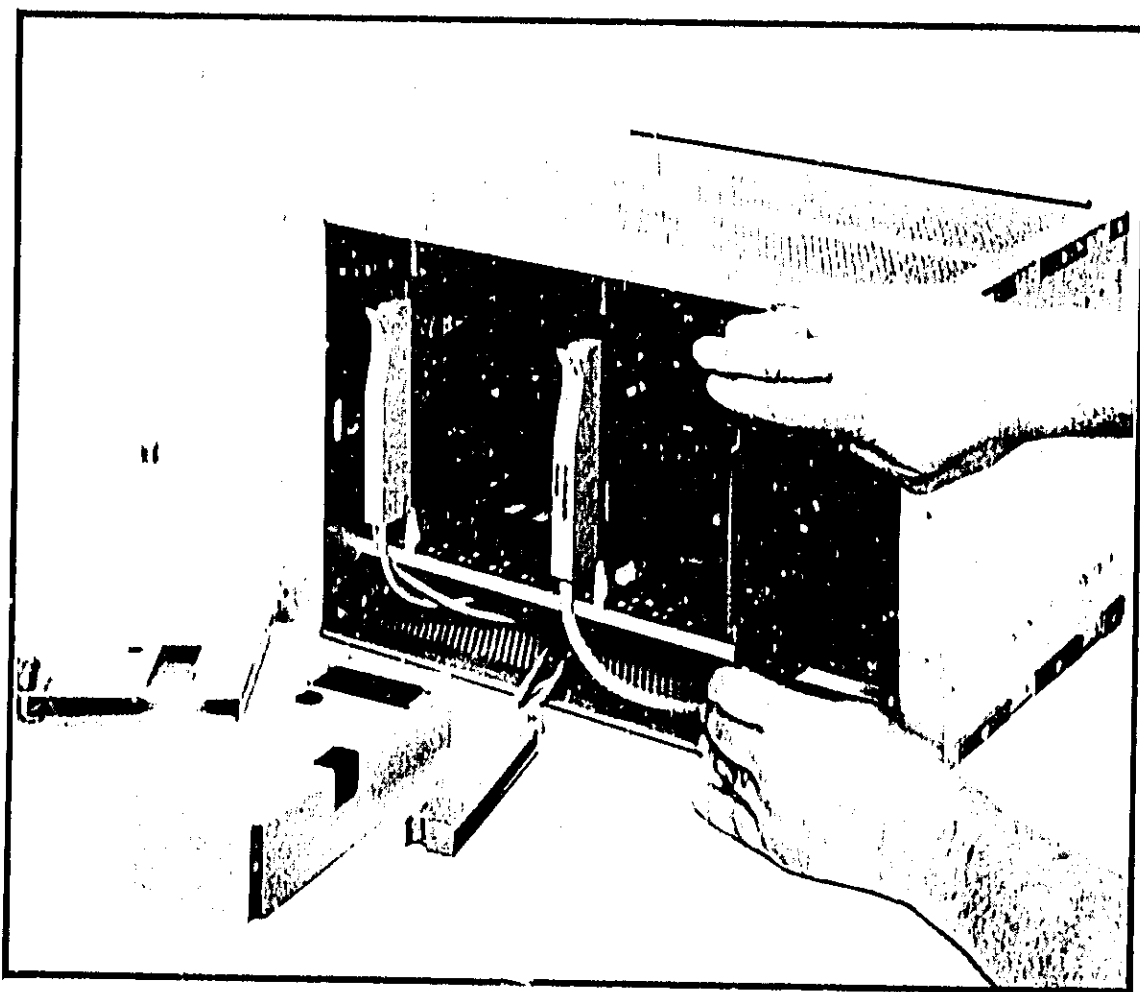

Figure 5-5. Installation of Hooded Connectors and Circuit Cards
To connect any hooded connector to a circuit card in the 10740A Coupler, pass the connector through the slot in the rear panel of the coupler and install it on the front edge connector of the applicable card (see Figure 5-5).
- h. Install all cards in the 10740A Coupler (see *Figure 5-5*). Be certain that the 10760A Counter cards are in the proper order.
To connect any hooded connector to a circuit card in the 10740A Coupler, pass the connector through the slot in the rear panel of the coupler and install it on the front edge connector of the applicable card (see *Figure 5-5*).
- h. Install all cards in the 10740A Coupler (see Figure 5-5). Be certain that if more than one 10764B Fast Pulse Converter card is used, they are installed in the proper order.